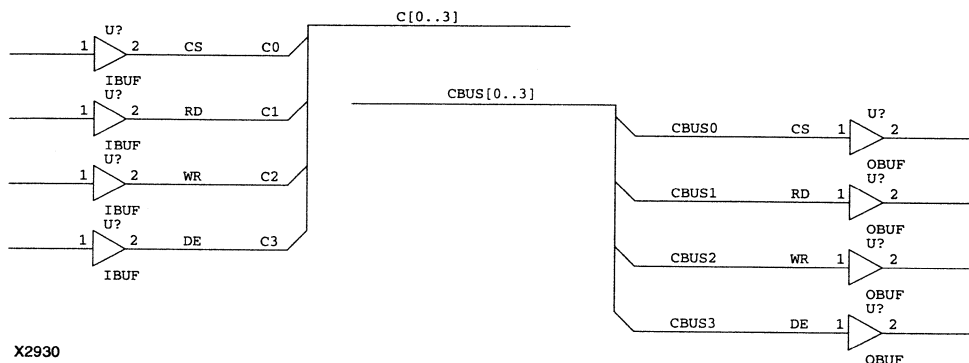

Figure 11-11 Double-Label Bus
- If signals without a common label prefix, such as control signals, are to be grouped on a single bus, additional labels with common prefixes must be attached to the individual signals. This technique is shown in Figure 11-11. Double labels are necessary where signals are joined together and where the bus is broken apart.